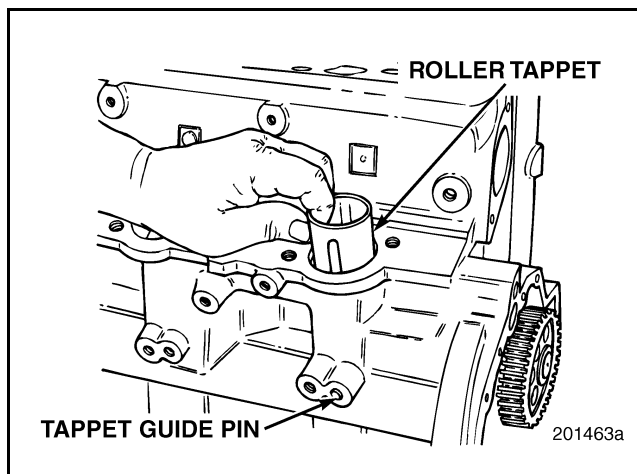

Figure 99 — Tappet Removal
6. Remove roller tappet from the EUP bore by hand (Figure 99). Do not use a tool, as it could damage the bore. Place the roller tappet in a clean area and cover it to prevent the entry of dirt and other contaminants.